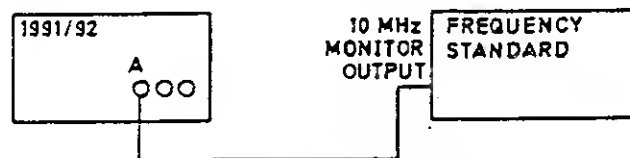

Figure 6.26 - Connections for Internal Frequency Standard Adjustment
- b. Connect the test equipment as shown in Figure 6.26